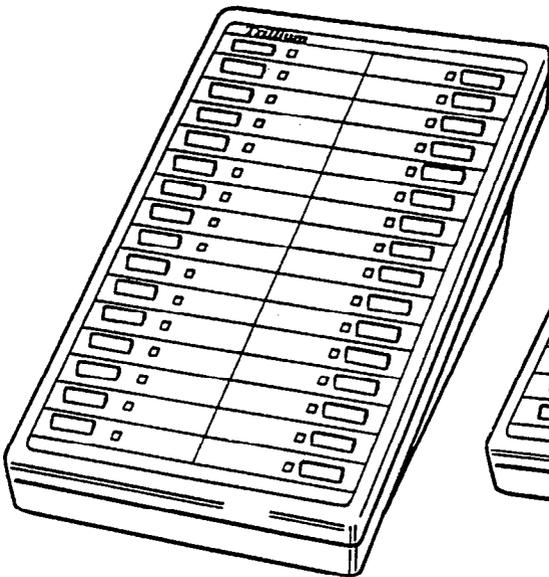

Figure 2-4
2.07 The Direct Station Select/Busy Lamp Field (DSS/BLF) Console, shown in Figures 2-4 and 2-5, is used in combination with one Panther 1032, 2064 or Panther II Display Set (if it is not wired for Off-Hook Voice Announce) to form an attendant position. The DSS/BLF Console provides visual indication of all other Panther Telephone sets in the system. It continuously monitors up to 32 or 64 stations, indicating the busy/idle status of stations through the on/off state of indicator lamps. In addition, it provides direct station select keys which allow the attendant to speed dial desired stations. Each 32- or 64-station DSS/BLF console occupies one station position at the KSU and must be connected in sequential order following the set's station position. The DSS/BLF console is connected to the KSU with standard 4-conductor cable.